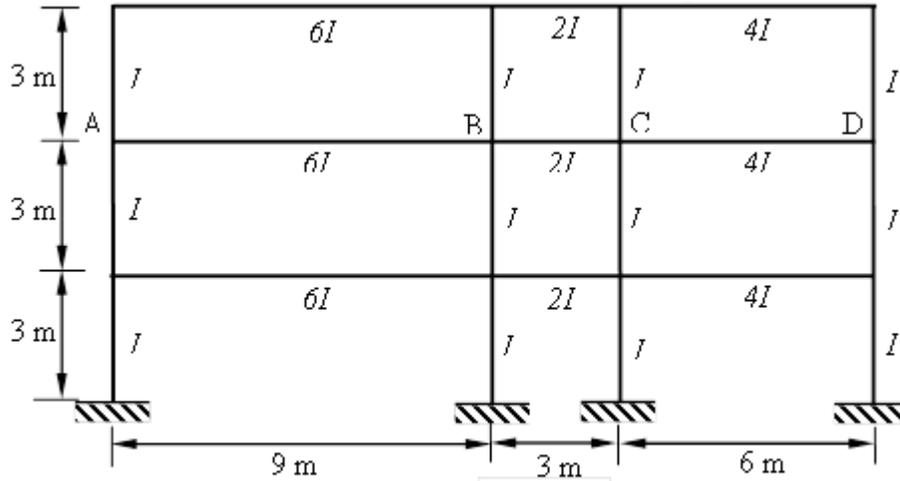

Fig. 5
8. Analyse the intermediate frame of a multistory structure shown in Fig. 5 for following data.